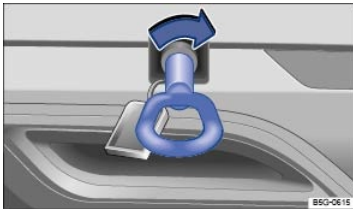

Fig. 206 In the right rear bumper: Installing the towing eye.
There is a threaded hole for the towing eye in the right rear bumper behind a cover ⇒ *Fig. 206*.
- Screw the towing eye **clockwise** into the threaded hole as far as it will go (arrow) ⇒ *Fig. 206* ⇒ ①. Use the lug wrench to turn and tighten the towing eye.